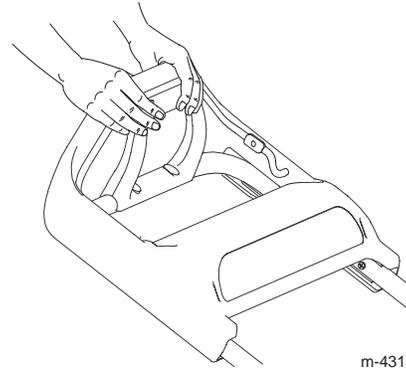

Figure 7
1. Reach forward with your fingertips and grasp the corners of the traction assist handle (Fig. 7).